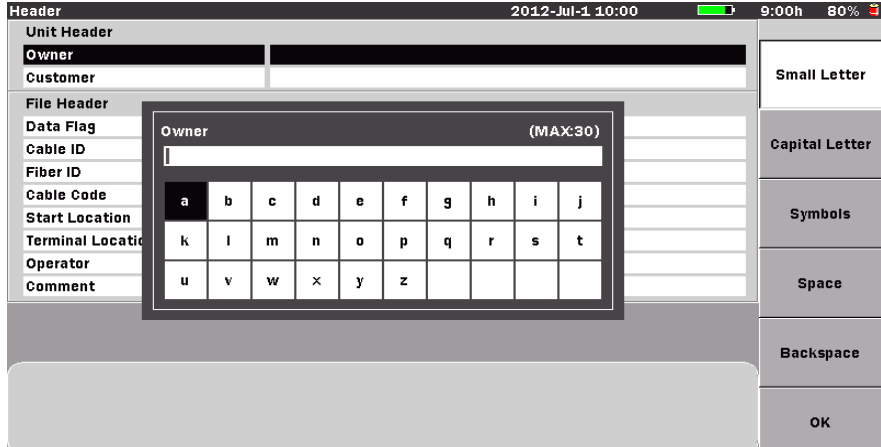

Figure 4-43: Text Entry dialog box
- Use the **Up** and **Down Arrow keys** (or the **Rotary knob**) to highlight the desired field and then press the **Enter key**. The Text Entry dialog box appears (see Figure 4-43). If no USB keyboard is connected, follow the instructions from step 5. to enter the name using the front panel keys. If a USB keyboard is connected, you can modify the name directly from the keyboard. When all of the desired characters are entered, press the **Enter key** to return to the Header screen.